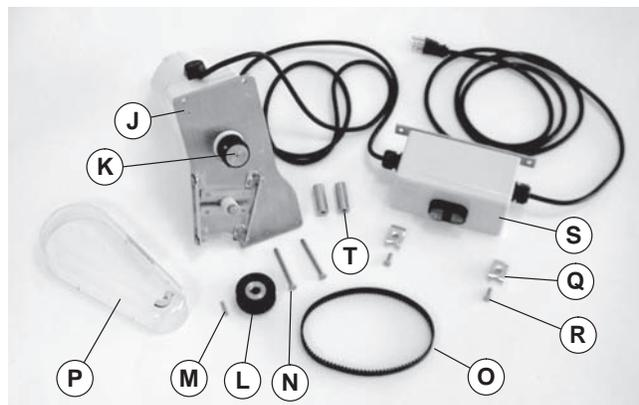
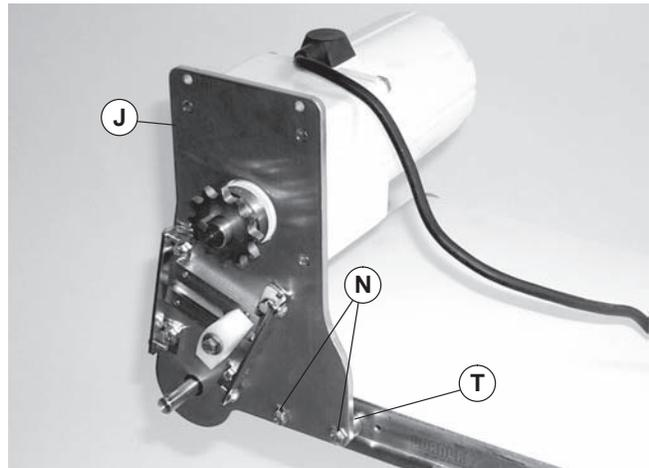

Figure 2
Figure 10
1. Typical components (Figure 2)
For a 7300 Series mounting package, install two spacers (Figure 2, item T) (shipped loose) between mounting plate/gearmotor assembly (J) and conveyor. On a 7200 Series (shown), the two spacers (Figure 10, item T) are attached to the mounting plate/gearmotor assembly.
- Attach mounting plate/gearmotor assembly (Figure 10, item J) and two spacers (see Note) with screws (N). Tighten screws to 92 in-lb (10.4 Nm).